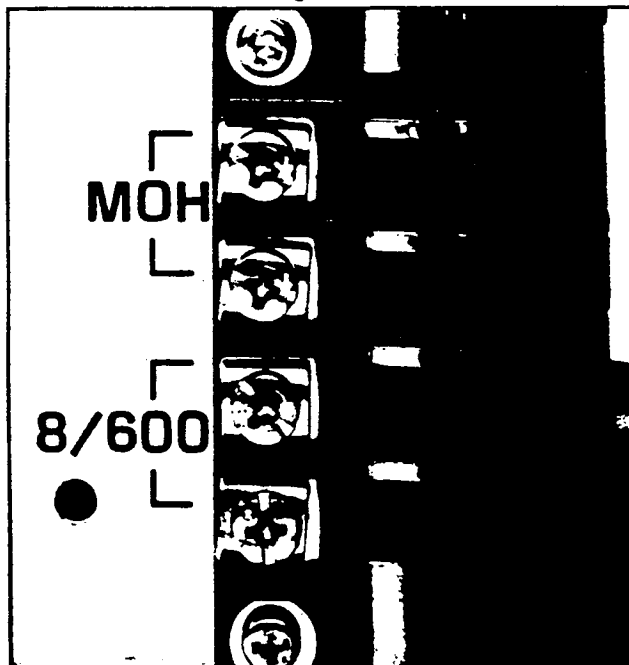

FIGURE 29—MKSU CONNECTION STRIP
13.01 All connections to the miscellaneous equipment are made via the right side panel of the MKSU, as shown in Figure 29.